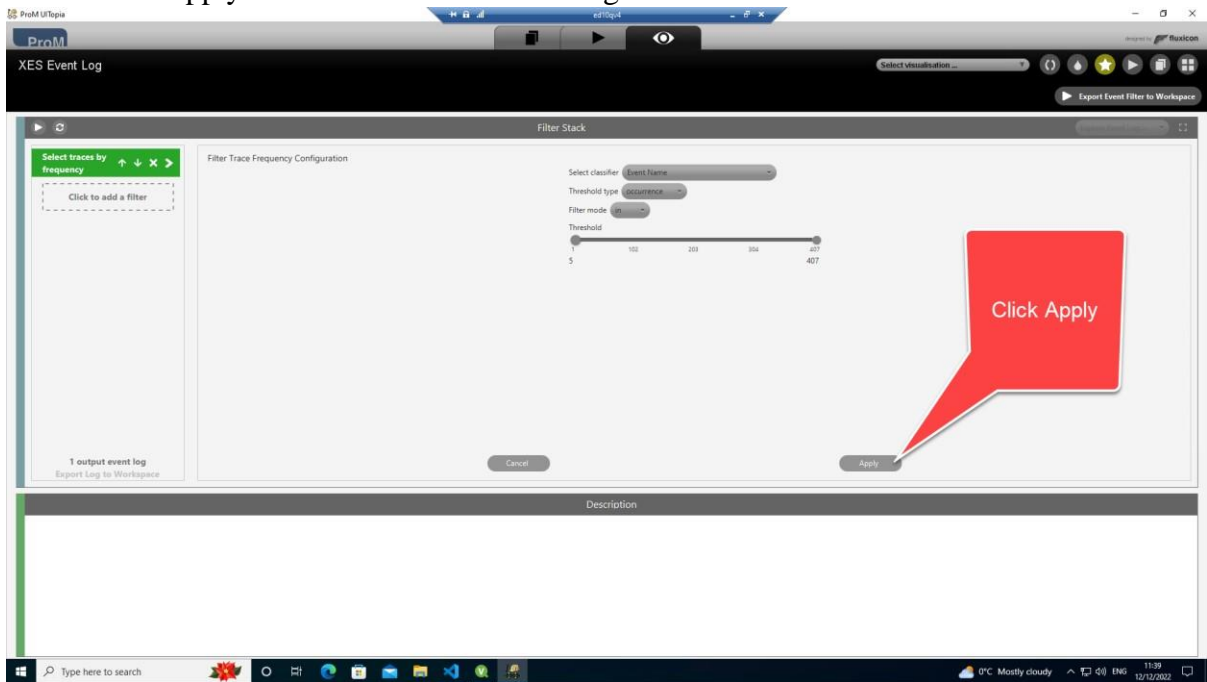

Figure 18 – Image showing how to select Apply to set the filter
14. Click apply to set the filter as seen in Figure 18.